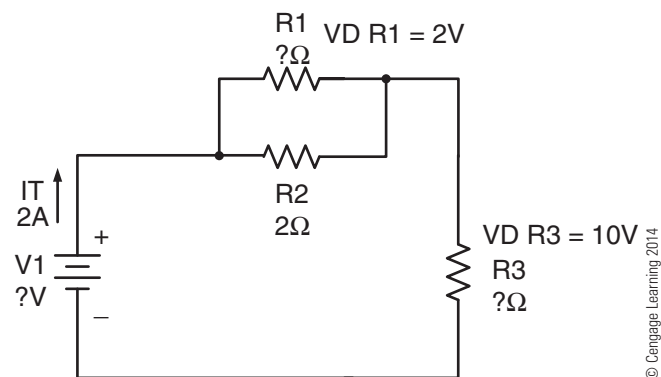

Figure 2-64
20. Referring to **Figure 2-64**, the voltage dropped across R1 is 2V and the voltage dropped across R3 is 10V and the total circuit current IT is 2A. Find the following: